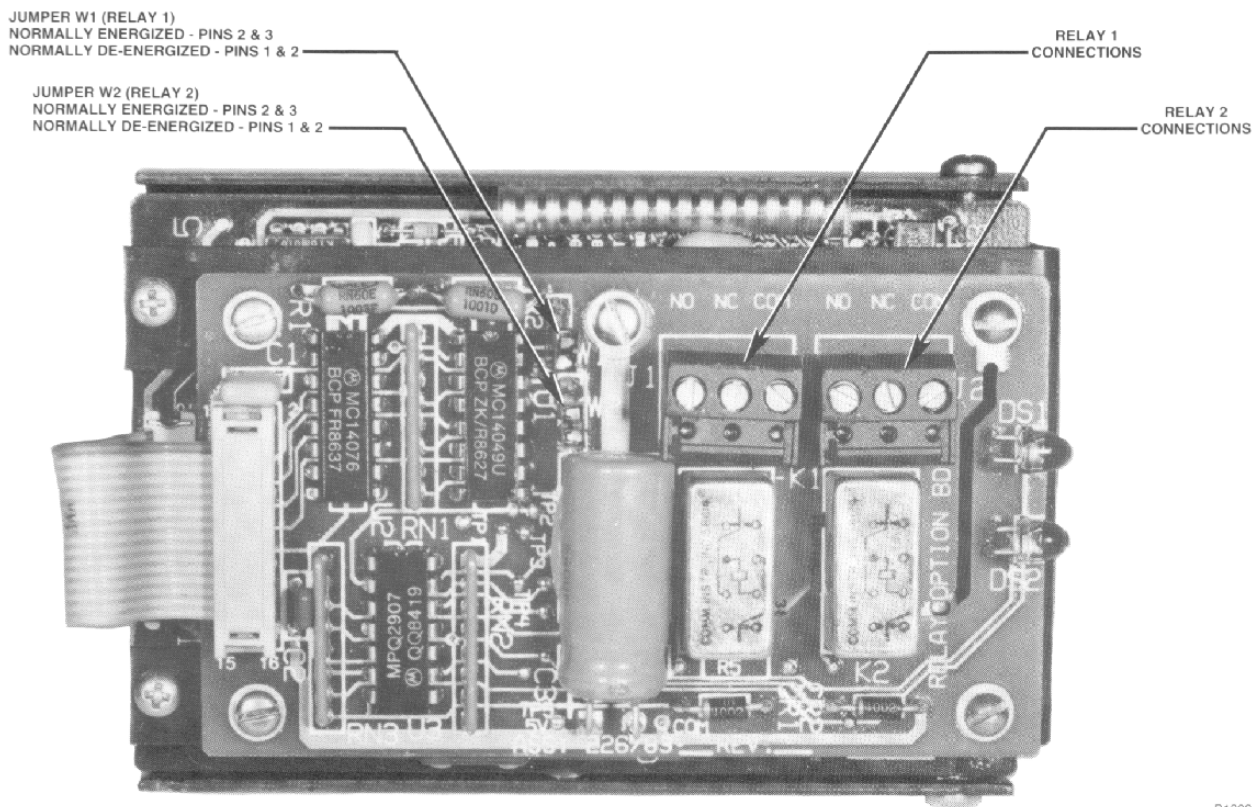

Figure 12—Relay Wiring Terminals and Programming Jumpers
9. See Figure 12 for connecting external loads to the relay outputs.
11. The relays are programmed for normally energized or de-energized operation by placing jumper plugs on the appropriate pins at locations W1 and W2 on the relay board. See Table 2. W1 controls Relay No. 1 and W2 controls Relay No. 2. For normally de-energized operation, place the jumper across pins 1 and 2. For normally energized operation, place the jumper across pins 2 and 3. See Figure 12 for jumper locations.